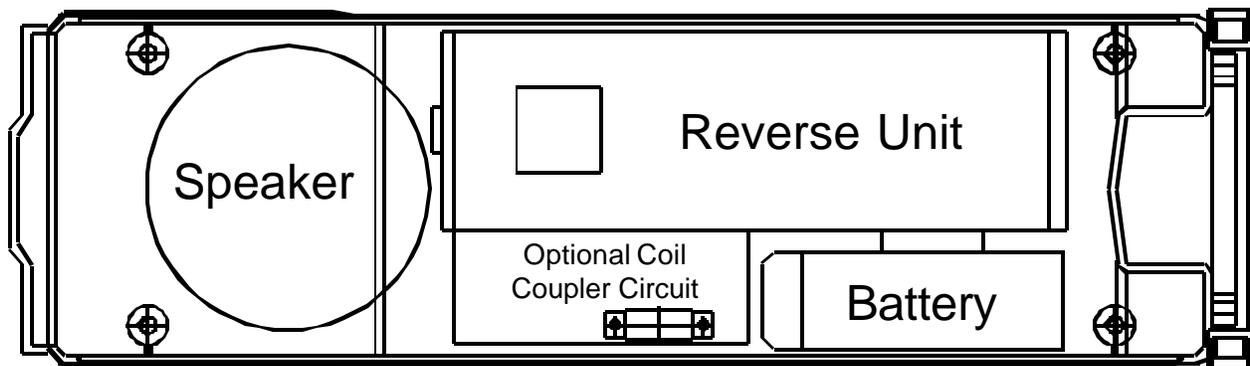

Figure 18: Component Locations In The Tender Shell
6) Attach the battery with the double sticky foam tape provided. Mount the battery next to the reverse unit as shown in Figure 18.